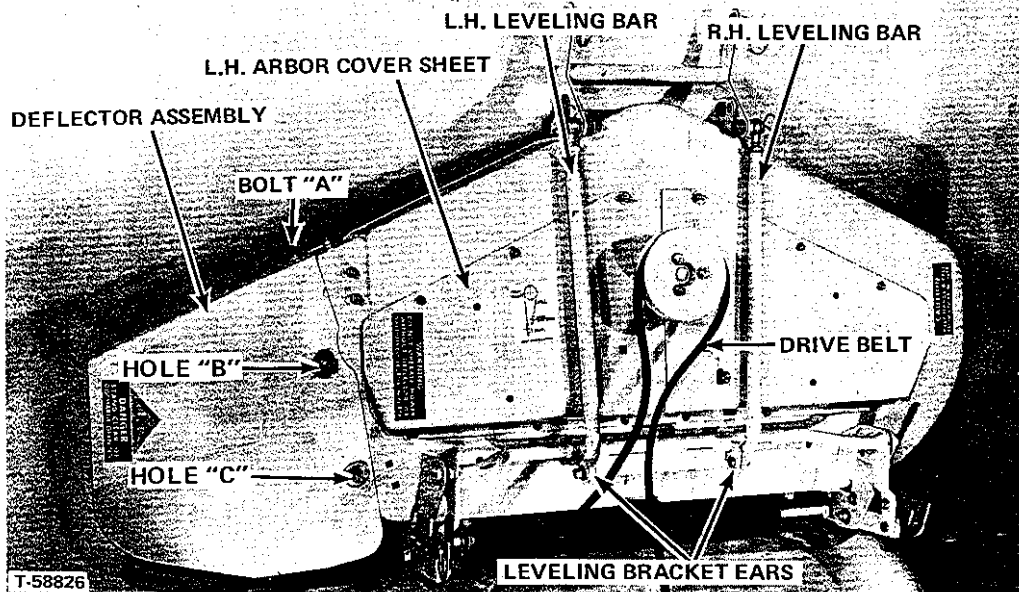

Figure 2.
5. See Figure 2. Fasten the rear of the right and left leveling bars to the outside of the leveling bracket ears with bolts, spacers, flat washers, lockwashers, and nuts.
6. See Figure 2. Bolt the discharge deflector to the left end of mower housing, slipping notch in front leg of deflector under mower housing, slipping notch in front leg of deflector under large flat washer on bolt "A" and installing bolt, flat washer, lockwasher and nut at holes "B" and "C".